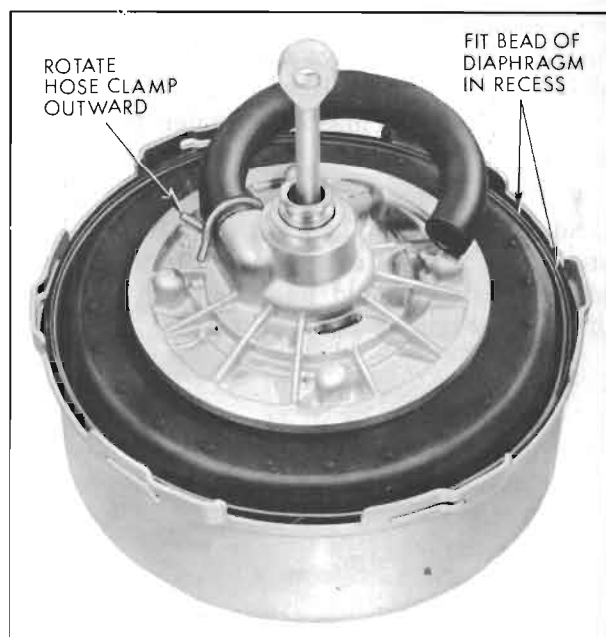

Figure 9-23—Installing Power Piston Assembly in Front Housing
contacts power piston; otherwise it will strike the rear housing and prevent full return of power piston assembly. See Figure 9-23.
21. Rotate power piston assembly so that unattached end of hose is in line with master cylinder filler cap. Press power piston down and hold in position while fitting bead of diaphragm into recess in rim of front housing. See Figure 9-23.